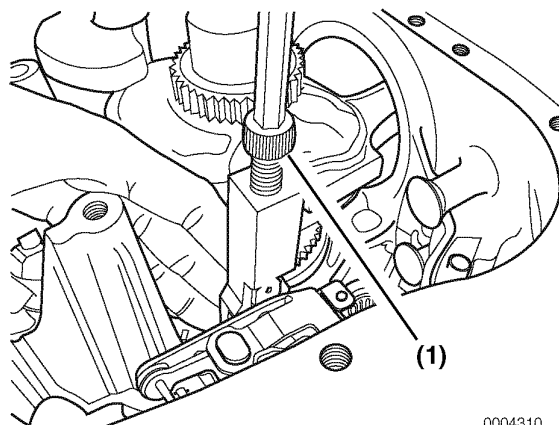

Figure 8-85
5. Tighten the hex cap screw (**Figure 8-85, (1)**) on top of the tool to push the pin through the governor lever and throttle shaft to remove the pin.